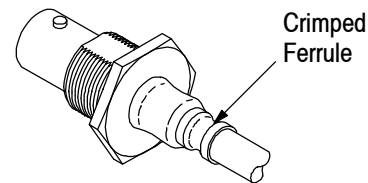

Figure 6
7. Crimp the ferrule onto the support sleeve of the jack body using the appropriate die assembly. Refer to Figure 6.